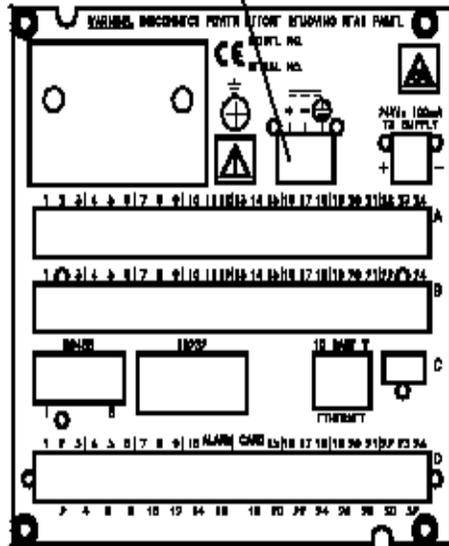

FIGURE 3.2
<p>Procedure</p>	<ol style="list-style-type: none"> 1. Document Hardware components of Honeywell MiniTrend V5 Recorder in the Honeywell MiniTrend V5 Actual Hardware Configuration Table. 2. Compare hardware components recorded to Expected Results Table corresponding to the Model Number recorded in Step 1. 3. Model Number may contain numeric values different than documented model number due to non-hardware options. These numbers are identified by an underline in the documented model number. 4. Reference MiniTrend V5 DC rear panel Figure 3.2 and 3.2a for card/slot reference. Slot Configuration identified on Expected Results Table reflect factory default configuration. Identify any deviations and refer to manufacturers manual for accepted alternate slot. 5. Complete Computer Component Table in its entirety. Applicable only if support software installed, i.e. TrendViewer, TrendManager Pro and Screen Designer. Use copy of form for each installed workstation with access to any of the above listed software.
6.14. Figures 3.2 and 3.2a